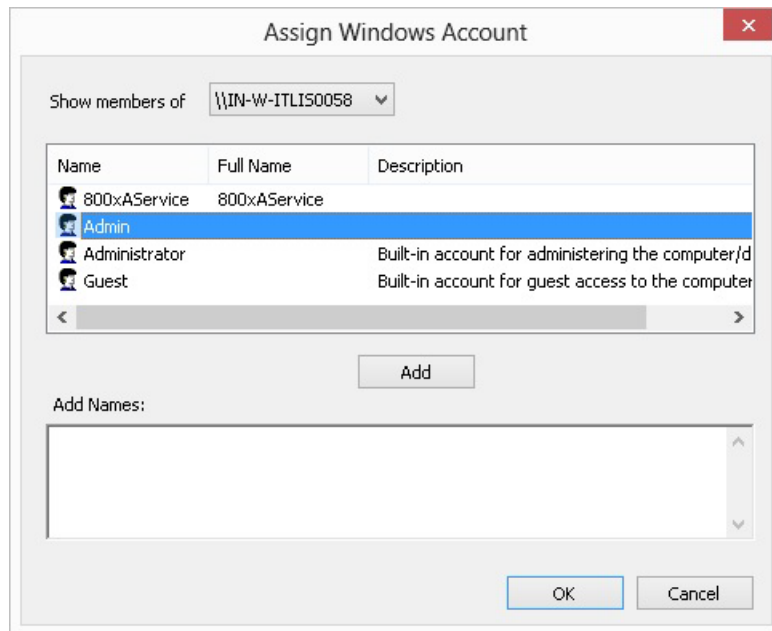

Figure 28. Assign Windows Account Dialog Box
- The list of the Windows users of the selected domain are shown, see Figure 28. Select the Windows users you want to add to the System 800xA users and click **Add**.